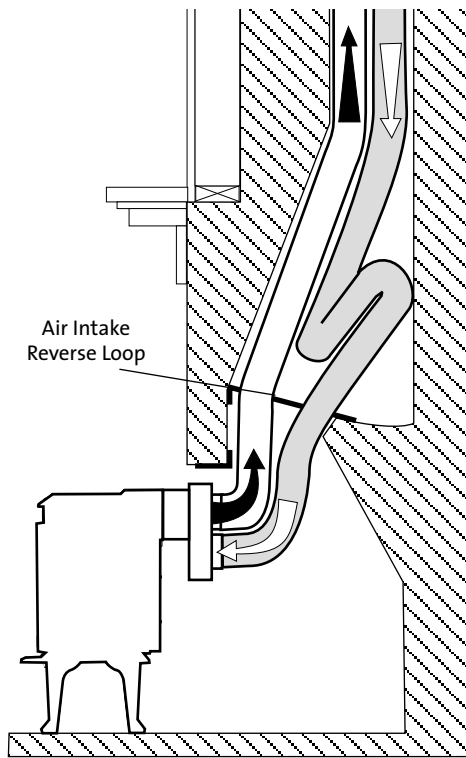

Figure 16. A “reverse loop” in the air intake run can help maintain draft strength.
7. **REVERSED INTAKE LOOP:** When enough vent length and flue area are available, including a return loop in the air intake run can help prevent draft reversals that cause cold start problems. See Fig. 16.